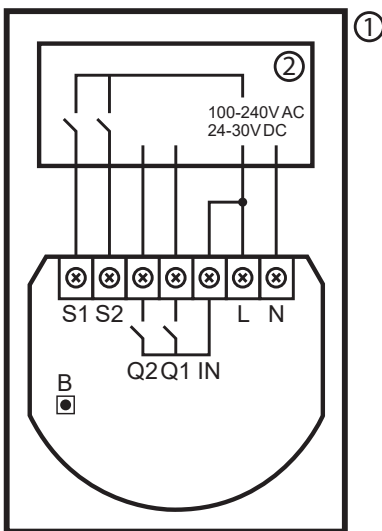

Figure 1: Example connection of DoubleSmart-Control
- Connect only as shown in Figure 1 below.
2. Connect as shown in Figure 1 below.